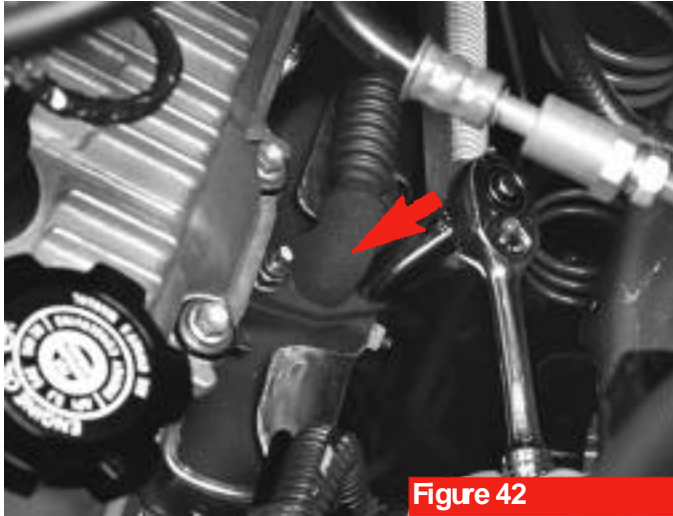

Figure 42
If your Tacoma or T-100 is equipped with an Exhaust Gas Recirculation (EGR) valve (see arrow, figure 42), you will need to remove the valve from the stock intake manifold and reattach it to the Magnuson supercharger manifold. Here's how:
1. Loosen the EGR pipe from the driver's side exhaust manifold. This will ease the removal and installation procedures (figure 42).
3. Tighten the nuts holding the EGR pipe to the exhaust manifold (figure 42) and torque them to the specs provided in the Toyota Repair Manual.